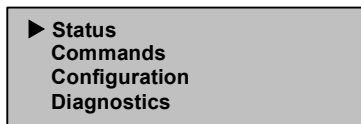

Figure 55: Main menu
1. On the main menu, scroll to Status. (See Figure 55.)